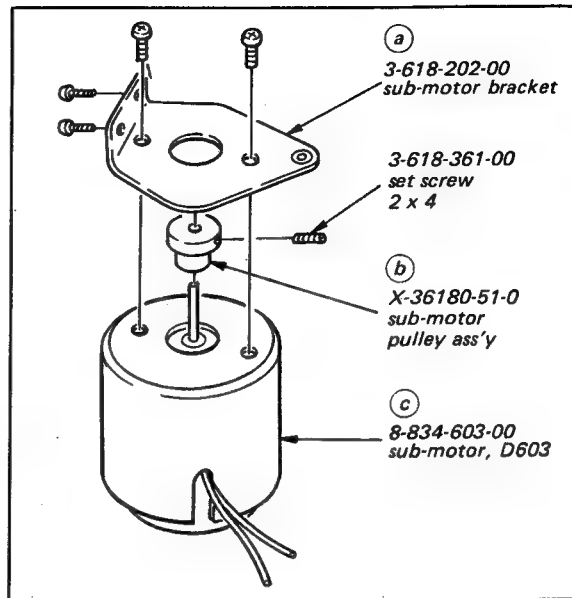

Fig. 7-23 Sub-motor assembly
5. Remove screws in Fig. 7-23 to take out the sub-motor assembly.
6. Remove (a) submotor bracket and (b) from sub-motor as shown in Fig. 7-23.
9. Install the bracket shown in Fig. 7-23, and the belt.